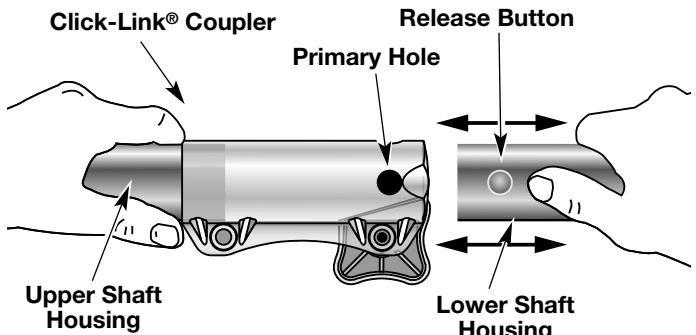

Fig. 8
2. While firmly holding the add-on, push it straight into the Click-Link® coupler (Fig. 8).
**NOTE:** Aligning the release button with the guide recess will help installation (Fig. 8).